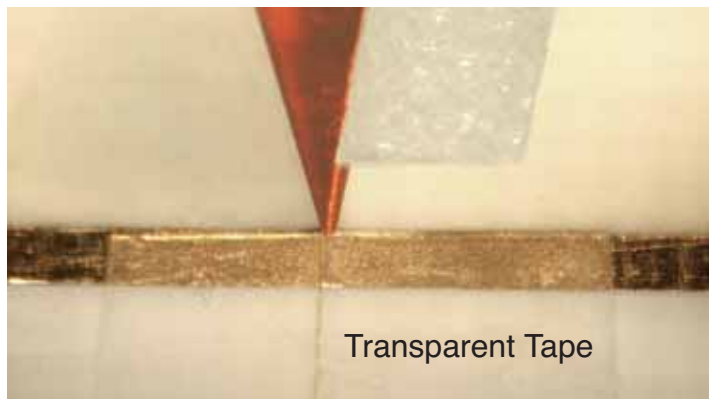

Figure 11: Securing the coil lead with clear tape
- With the board vertically positioned, centralize the coil on the marked foam surface. Position the coil's pointed end lead across the printed line at the scribed location of step 2. Temporarily secure this lead to the printed line and dielectric surface with transparent tape as shown in Figure 11.